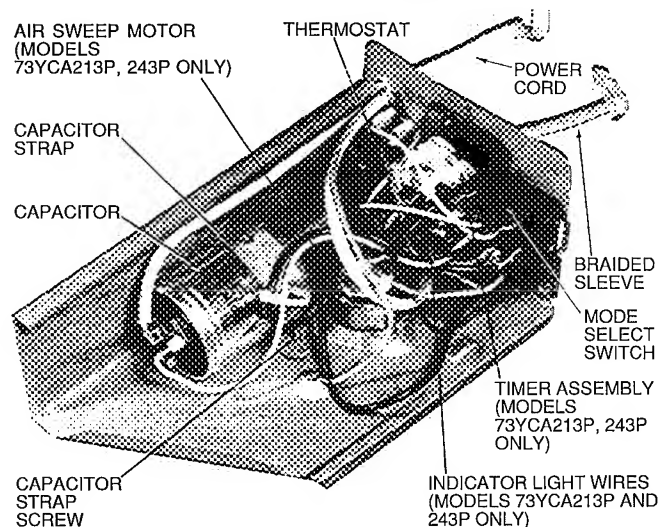

Fig. 9 — Control Box Components
8. On right side and bottom of control box, manually disengage removable sheet metal panel to access control box components. See Fig. 8. See Fig. 9 for control box components.
Mode Switch Control Removal (See Fig. 9 and 10)
2. Carefully disconnect wires from timer assembly (Fig. 9). Label wires to aid in reassembly
3. Remove screw fastening capacitor strap to control box and remove strap. (See Fig. 9, 10 and 12.)
2. Carefully disconnect indicator light wires (Fig. 9 and 13) from termination connections. Label wires to aid in reassembly.
2. Carefully disconnect air sweep motor (Fig. 9) wire terminations.